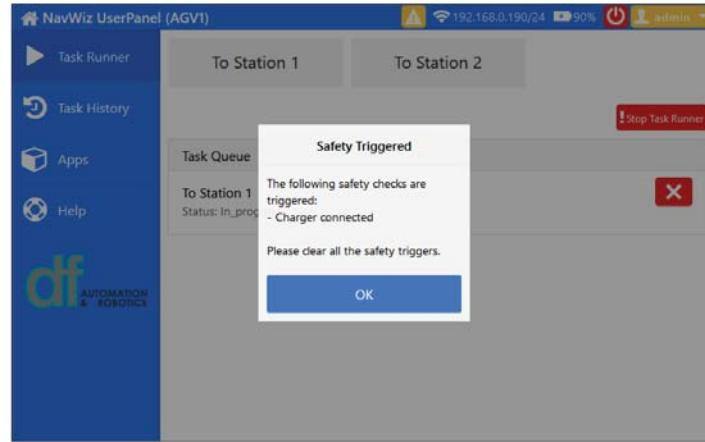

Fig. 3.32: Charger Connected Safety Triggeres Message
- i. Upon the start of AGV operation with the manual charging cable connected, the operation will be stop immediately and a **Safety Triggered** popup with **Charger connected** message will be shown on the LCD Touchscreen. See Fig. 3.32.